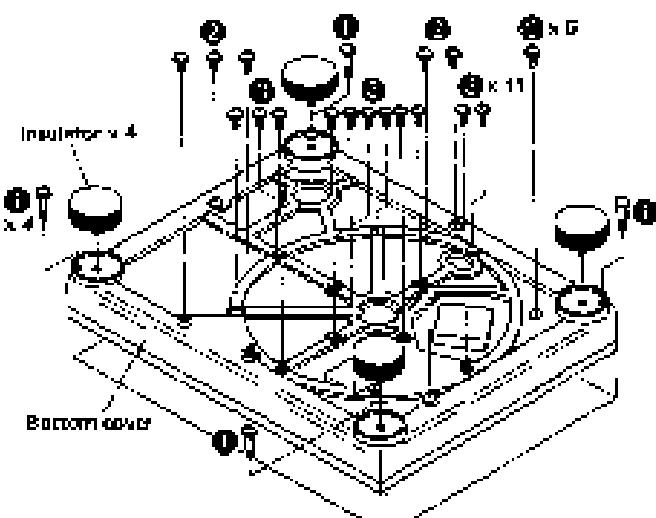

Fig. 1
- 3. Remove the insulators and the 21 setscrews (Fig. 1 : ①, ②, ③) of the bottom cover.